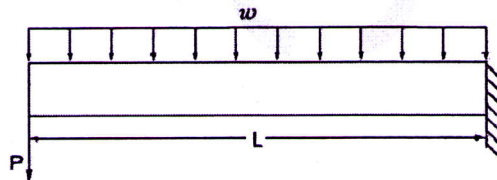

Fig 2
- 17 A beam of length 14 m is simply supported at its ends and carries two-point loads of 90 kN and 60 kN at a distance of 3 m and 9.5 m respectively from the left support. Calculate the deflection under each load using Macaulay's method. Find also the maximum deflection. Given $E = 2.1 \times 10^{11} \text{ N/m}^2$ and $I = 64 \times 10^{-4} \text{ m}^4$. (14)
- 18a The cantilever beam supports a uniformly distributed load w and a concentrated load P as shown in Fig 2. Also, it is given that $L = 2 \text{ m}$, $w = 4 \text{ kN/m}$, $P = 6 \text{ kN}$ and $EI = 5 \text{ MNm}^2$. Determine the deflection at the free end using Castigliano's theorem. (9)